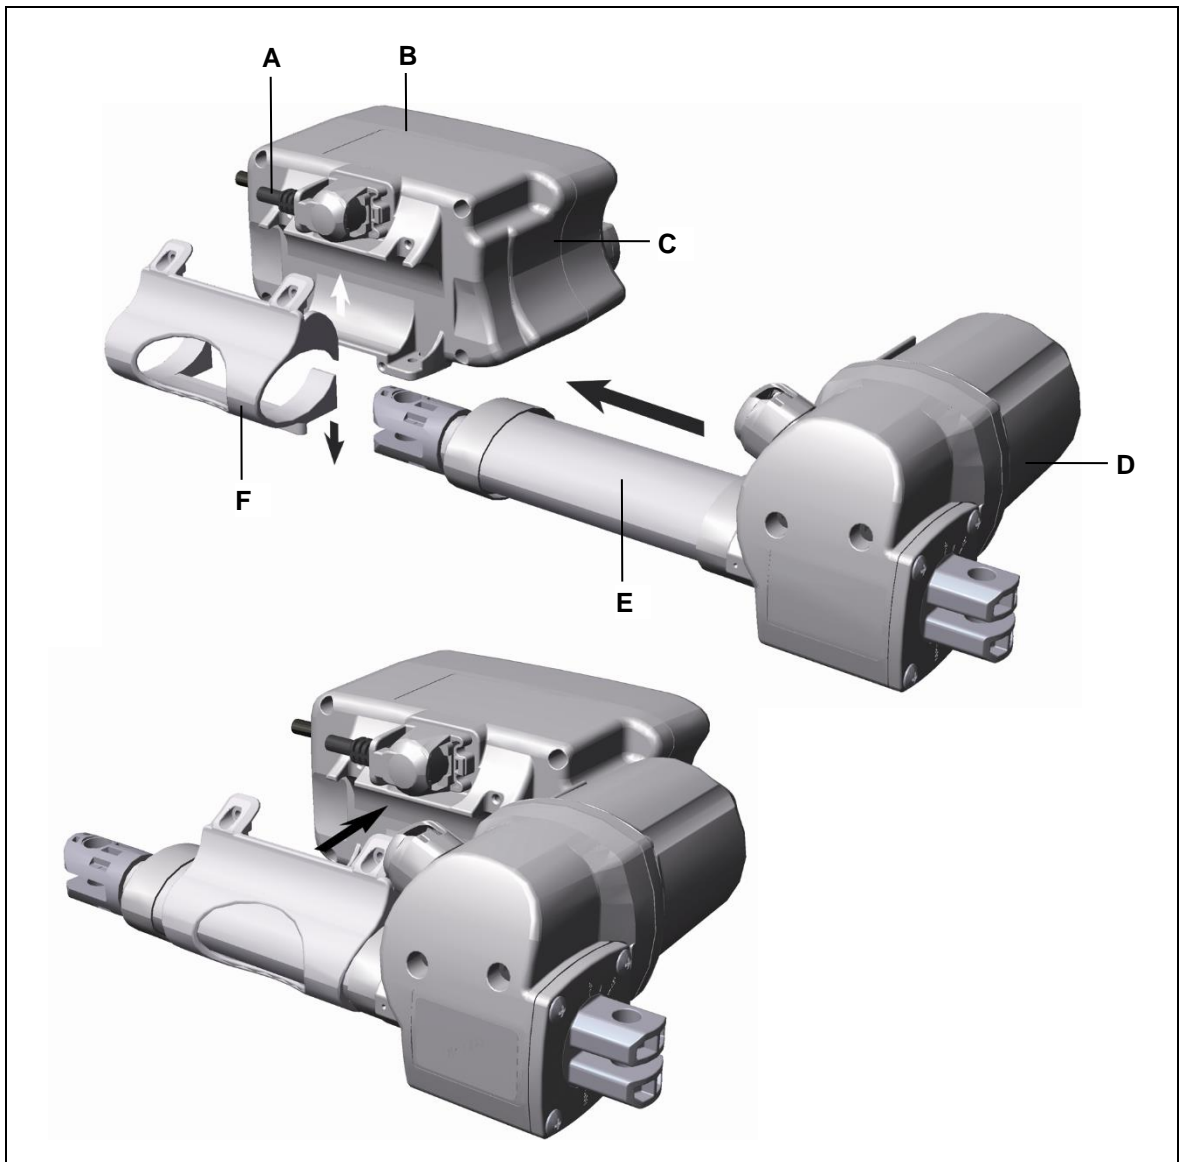

Figure 14 Fitting the MEGAMAT MFZ drive onto the MCL II control unit
- 1 Slide the mounting clip (F) over the flange guide (E) of the MFZ drive as shown in Figure 14. To do this pull the mounting clip apart slightly.
- 4 Remove all the screws from the mounting clip (F) as shown in Figure 12 or Figure 14.